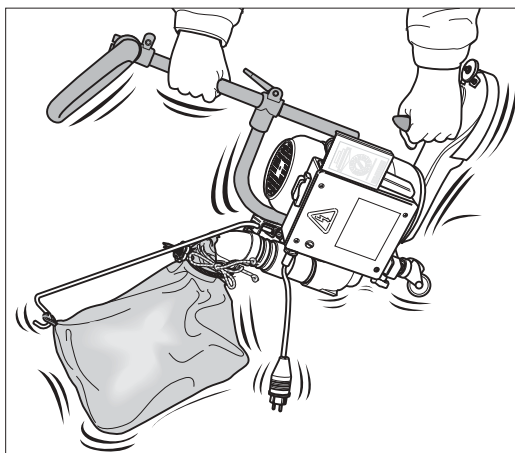

Fig. 50: Shake the machine so that the dust falls from the suction pipe stub into the dust bag.
- 4 Hold the Unico firmly by the extension and by the machine handle. Shake the machine so that the dust falls from the suction pipe stub into the dust bag (Fig. 50). Set the machine down on the floor again.